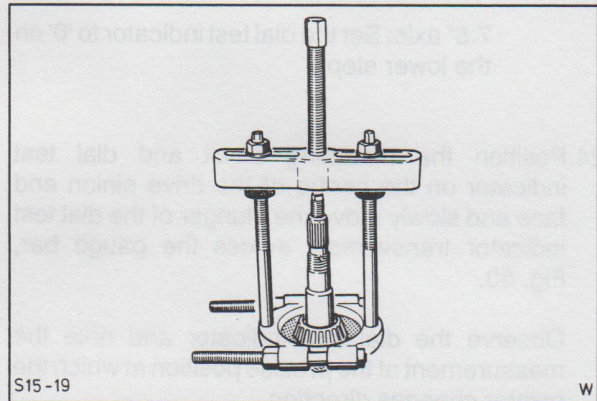

Fig. 53. Pull taper roller bearing off drive pinion.
26. Remove the taper roller bearing from the pinion using a standard puller and remove the shim, Fig. 53.